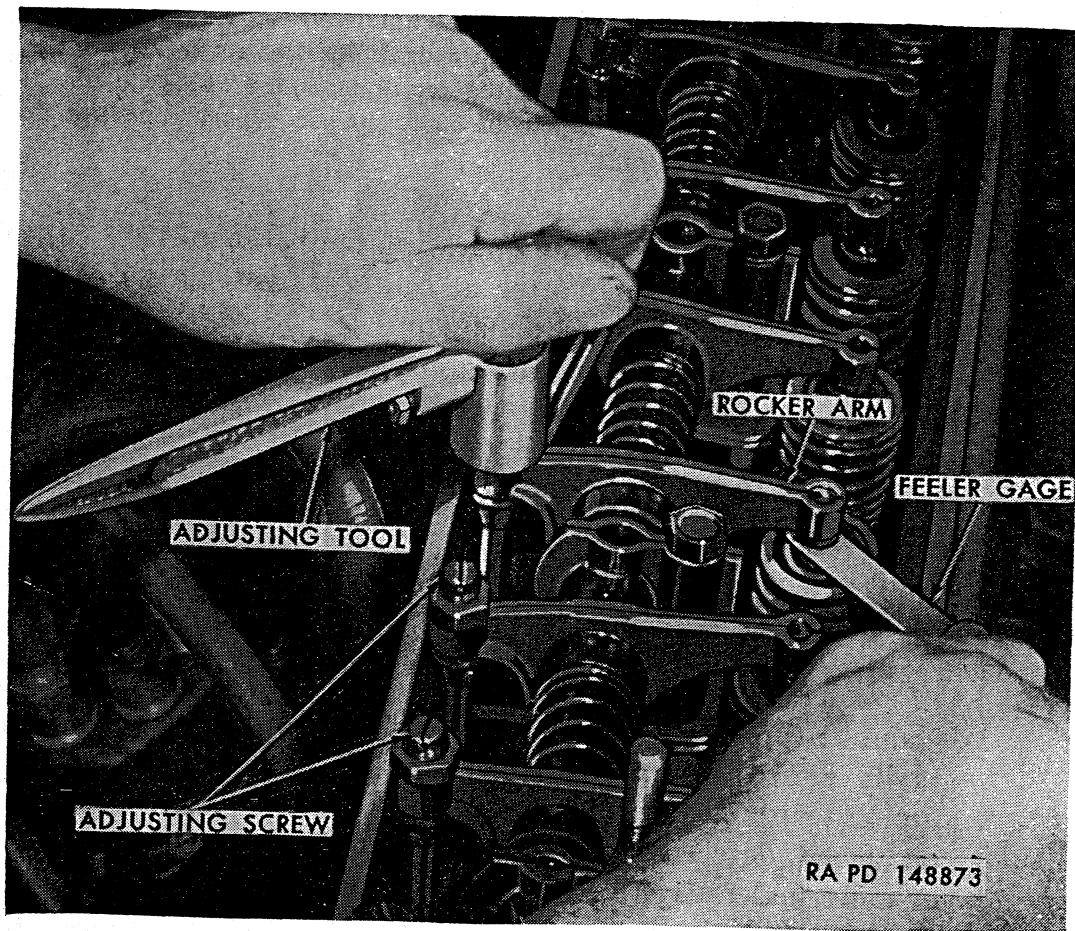

Figure 95. Valve clearance adjustment with tool 41-T-3380-60.
*d.* Use feeler gage to check clearance between rocker arm pad and end of valve stem or rotator cap as shown in figure 95.
Correct clearance is 0.012 inch for intake valves and 0.020 inch for exhaust valves. Using tool 41-T-3380-60 (fig. 95), loosen jamnut on rocker arm adjusting screw and turn screw to obtain clearance, then tighten jamnut to lock the adjustment. Recheck clearance after tightening each jamnut.